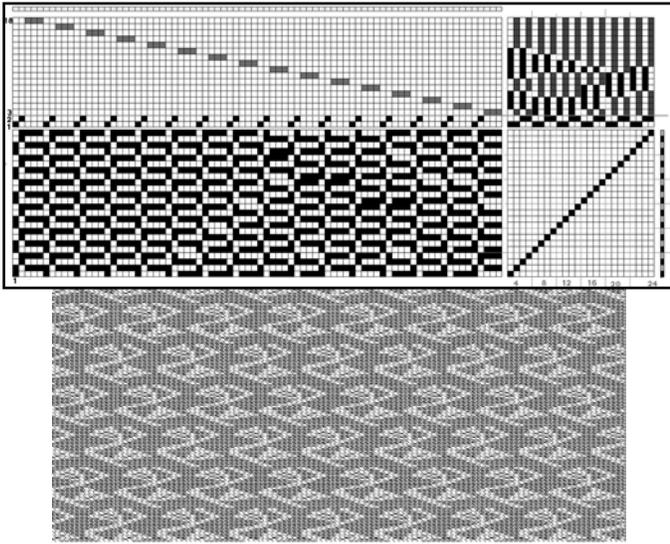

Fig. 5: Part of the design draft and fabric simulation
5. If working on a computer with a textile program, take the black tie-up copy and paste it in the top of the tie-up (*Figure 5*). If working on paper you have to do it by hand.
Looking at this tie-up it can be interesting to take a fresh look at the Cruzaad article, the same idea with a different threading. The result gives another structure (*see Figure 5*). For only six treading blocks (6 x 4 wefts), 24 treadles are needed. For the whole design there are 40 treading blocks (40 x 4wefts) needs 360 treadles. That's why Monsieur Backhausen says with a smile that these productions were made on Jacquard loom.